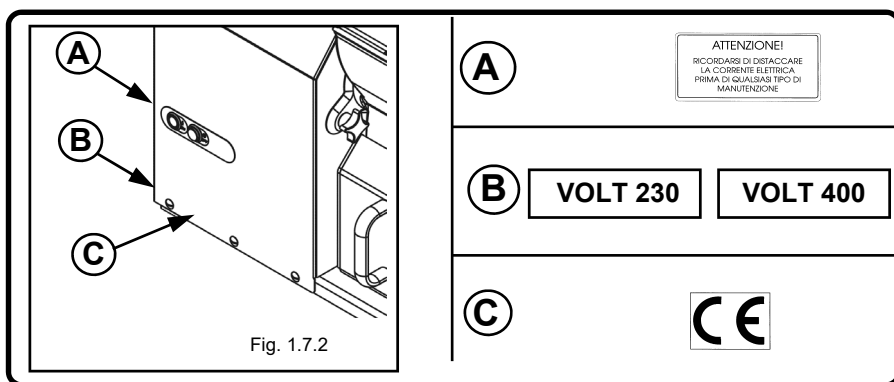

Fig. 1.7.2
1.7.1 - Safety and warning plates (fig. 1.7.2)